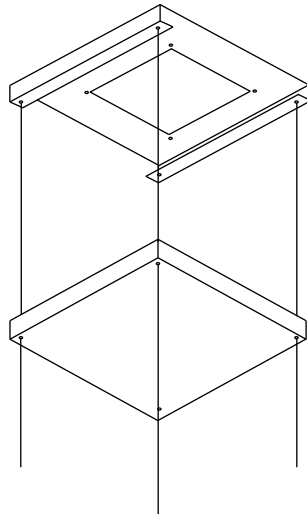

Fig 6
4. Thread the 4 strings through the holes on the ceiling bracket cover (Fig 6).